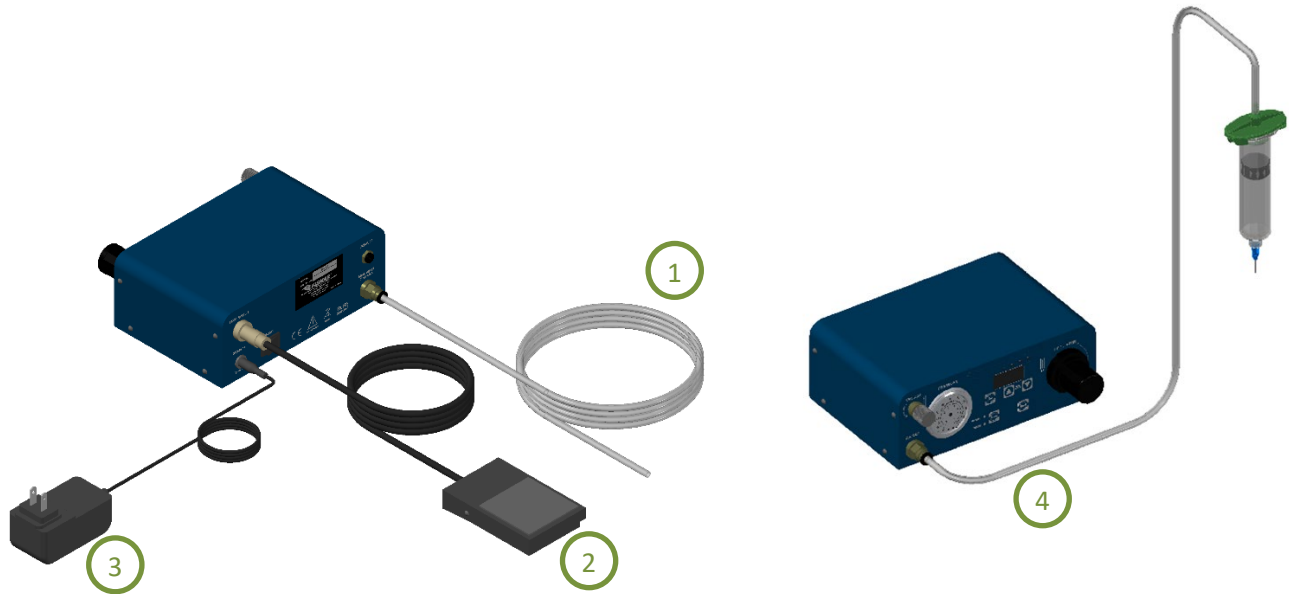

FIG. 5: Front and Back Views
| 1. | Connect air hose (1) from compressed air 70-100 psi (5-7 bar) to the air inlet port on the back of the machine. See FIG. 5. |
| 2. | Insert the Foot Pedal connector (2) to the port on the back of the machine. See FIG. 5. Replacement foot pedal is available PN 235646 |
| 3. | Attach appropriate country type plug adapter onto the power supply and then connect Electrical Power Cord (3) to the port on the back of the machine. See FIG. 5. |
Connect the syringe barrel adapter air tube to the “Air Out” port on the front of the machine. (4) See FIG. 5. Can be standard use with Semco adapter head assemblies supplied with green color push to connect fitting (5606038). See table below for part numbers.